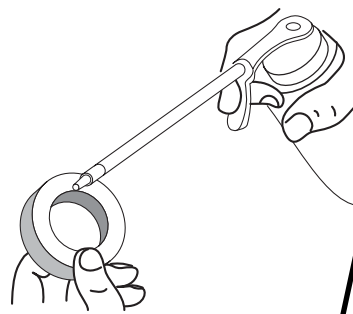

Fig. 29
4. Apply enough clean SAE 30 oil to lightly coat the filter (Fig. 29).